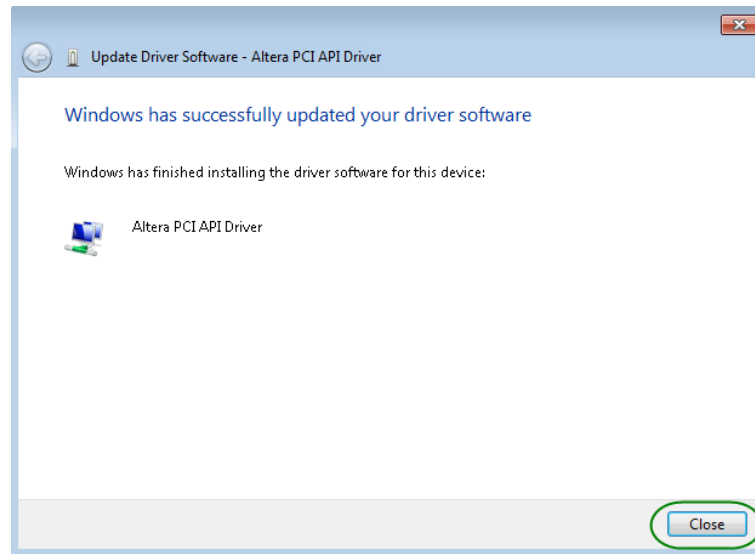

Figure 3-8 Click Close when the installation of Altera PCI API Driver is complete
13. **Figure 3-8.** Click the **Close** button.